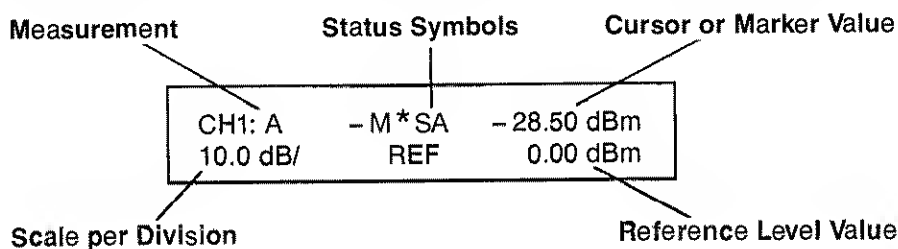

Figure 3. Mode Labels Description
1. **MODE LABELS:** For each channel that is turned on, this area shows the measurement mode (single input or ratio), status symbols (indicating activated functions), cursor amplitude (or HP 8350B or 8340/8341-series active marker amplitude), scale per division, and reference level value. Figure 3 shows each part of the mode labels area.